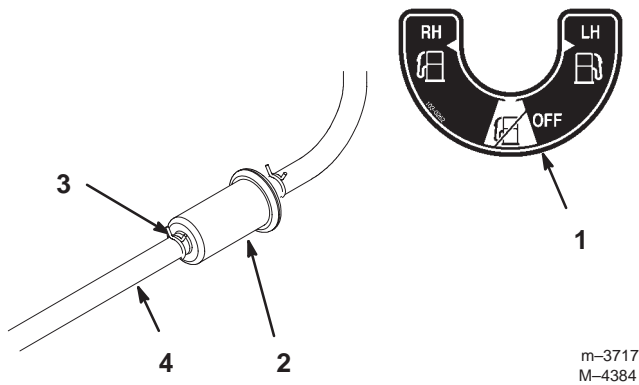

Figure 45
6. Install a new filter and move the hose clamps close to the filter (Fig. 45).
2. Close the fuel shut-off valve (Fig. 45).
3. Loosen the hose clamp at the fuel filter and slide it up the fuel line away from the fuel filter (Fig. 45).
4. Pull the fuel line off of the fuel filter (Fig. 45). Open the fuel shut-off valve and allow gasoline to drain into a gas can or drain pan.
5. Install the fuel line onto the fuel filter. Slide the hose clamp close to the fuel filter to secure the fuel line (Fig. 45).